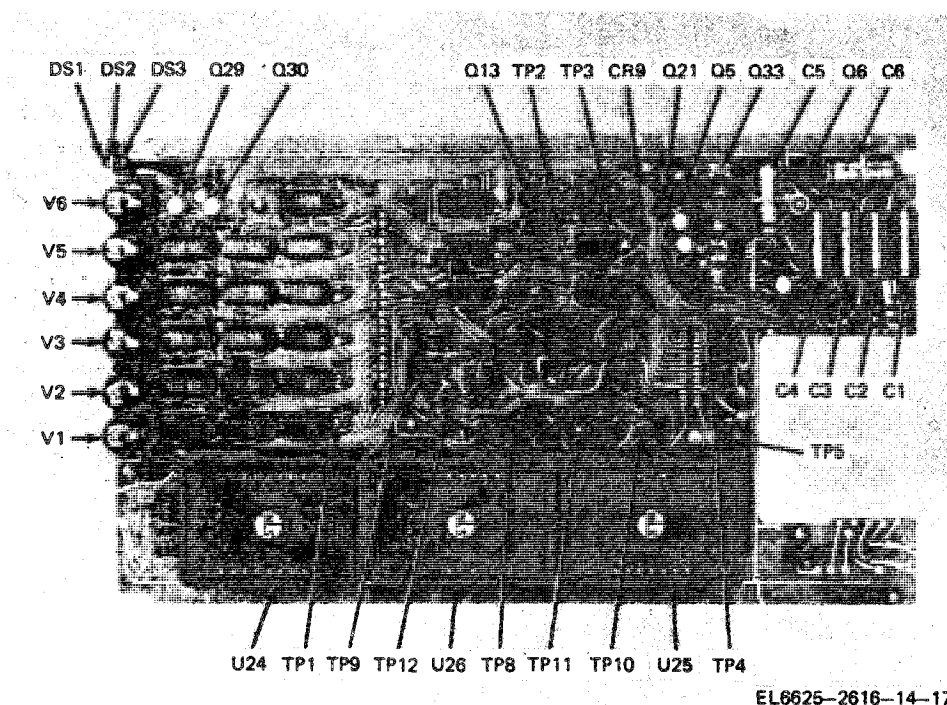

Figure 6-1. Main board assembly.
a. General. In the troubleshooting chart (*d* below) procedures are given for localizing troubles to a circuit or a specific component. Parts locations and test points are shown in figures 6-1 and 6-2. Integrated circuits are not called out on the figures since their reference designations are etched on the printed circuit board,